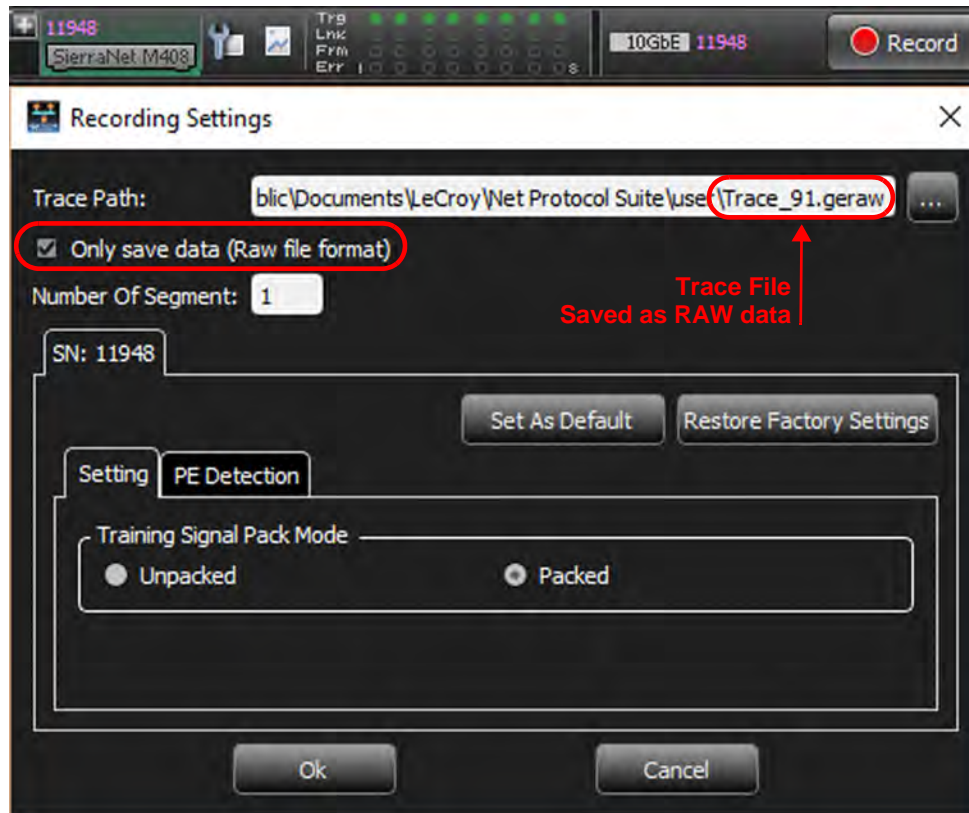

Figure 4.79: Recording Settings Window – M408 10GbE
- ❑ Raw (trace data saved as **.geraw** file without Indexing and Decoding) (Figure 4.79). Saving trace as RAW data will speed up saving the trace to host memory. The RAW data file can be indexed and decoded at a later date to view the Trace file.